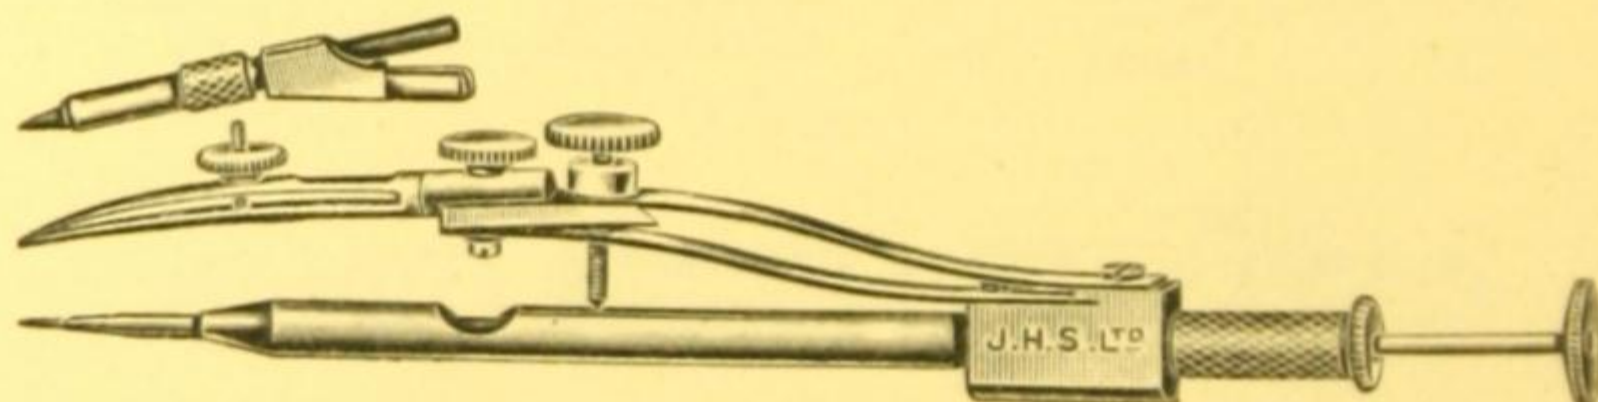

Fig. 180.
- SM 711.—**Pump or Rotating Spring Bow**, for drawing small circles, pen, and pencil points which can be held off the paper while the centre point is located. The pen or pencil is then rotated round the fixed centre ..... Fig. 180 **12 6**